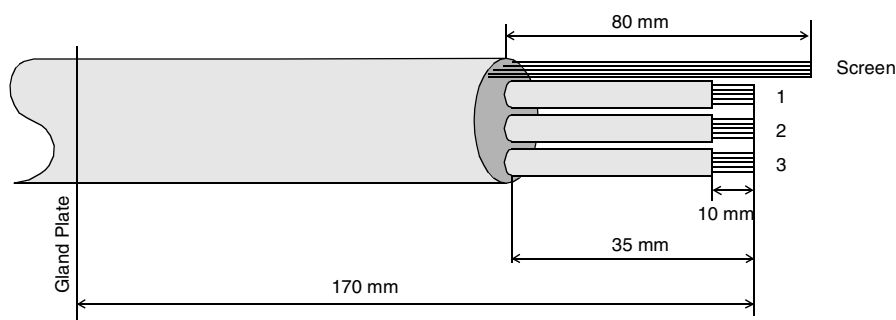

Figure 4-5 Resistor cable stripping diagram (braking chopper end).
- Cut and strip the cable as shown in Figure 4-5 above.